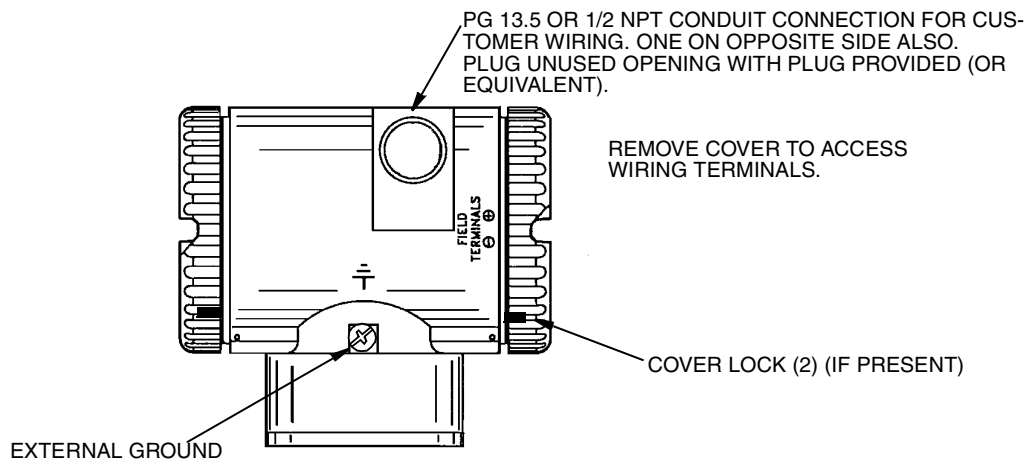

Figure 15. Accessing Field Terminals
Electronic housing cover locks, shown in Figure 15, are provided as standard with certain agency certifications and as part of the Custody Transfer Lock and Seal option. Screw the cover locks into the housing to unlock the covers. To reset the locks, unscrew them until the locks extend into the cover serrations to prevent cover rotation.
For access to the field terminals, thread the cover lock (if present) into the housing to clear the threaded cover and remove the cover from the field terminals compartment as shown in Figure 15. Note that the embossed letters **FIELD TERMINALS** identify the proper compartment.
2. Run signal wires (0.50 mm² or 20 AWG, typical) through one of the transmitter conduit connections as shown in Figure 15. Use twisted pair to protect the 4 to 20 mA output and/or remote communications from electrical noise. Maximum recommended length for signal wires is 1800 m (6000 ft)
2. Run the supply voltage and output wires (0.50 mm² or 20 AWG, typical) through one of the transmitter conduit connections as shown in Figure 15. If four-wire connection is used, use twisted single pair on the output side to protect the 1 to 5 V dc output from electrical noise.